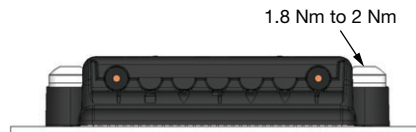

Fig. 11 - After Tightening of the Other Screw
- **STEP 2:** apply a tightening torque of 1.8 Nm up to 2 Nm maximum on the other screw (e. g. the screw on the right has been tightened as described in Fig. 11).